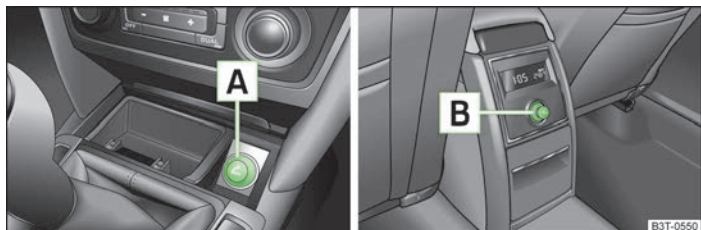

Fig. 85 Centre console: Cigarette lighter, front/rear
- Press the button of the cigarette lighter [A] or [B] » Fig. 85.
In the front centre console [A] » Fig. 85 on page 84.
In the rear centre console [B] » Fig. 85 on page 84.